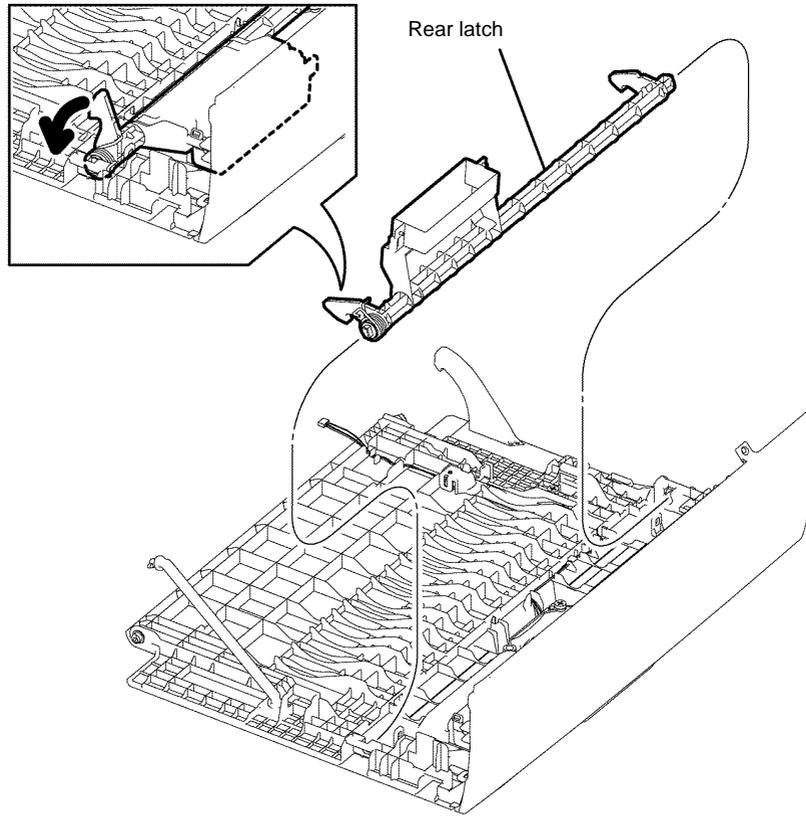

Figure 2 Rear latch removal
6. Release the rear latch in the arrowed direction to release the two hooks, then remove the rear latch, Figure 2.